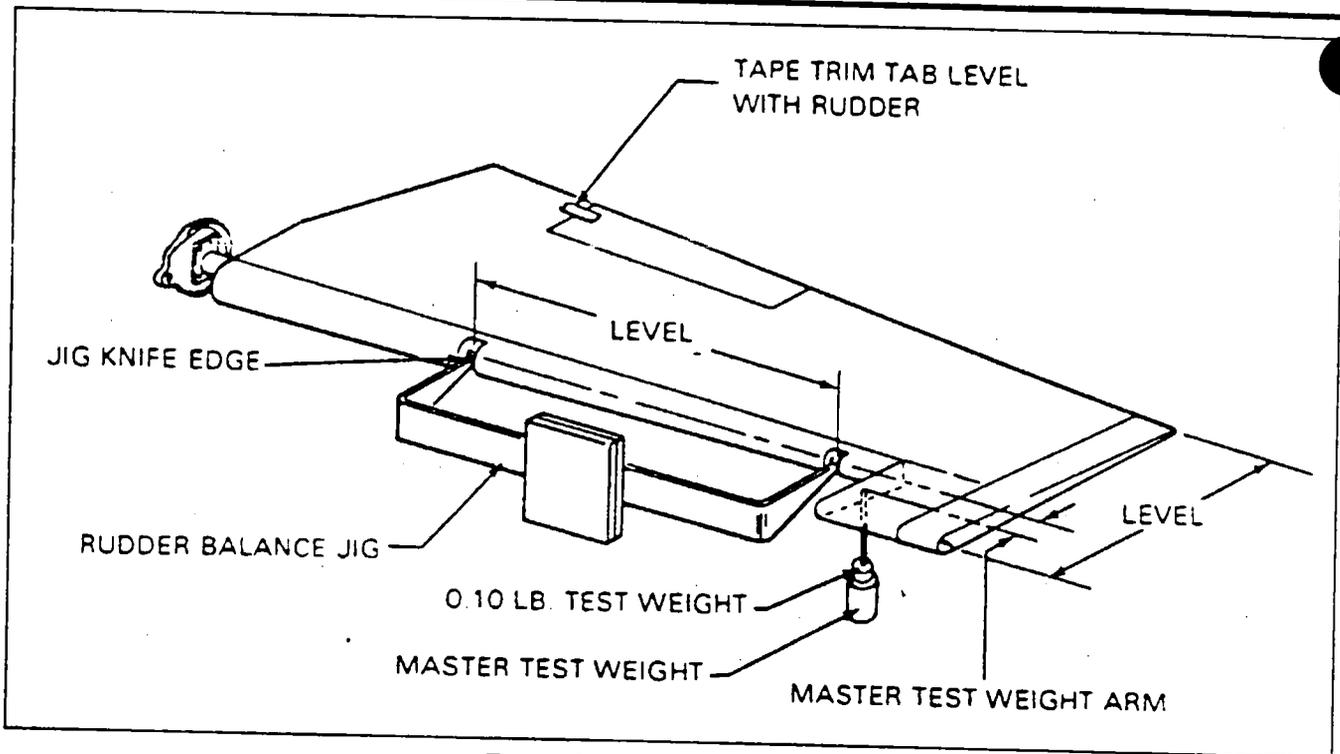

Figure 55-4. Rudder Balancing
**RUDDER BALANCING PROCEDURE.** (Refer to Figure 55-4.)
3. Fabricate a master test weight per specifications given in Chart 5502 and hang it in the existing tool hole in the rudder tip support channel. Ascertain that the tool hole is located to provide the proper master test weight arm as shown in Figure 55-4 and specified in Chart 5502.